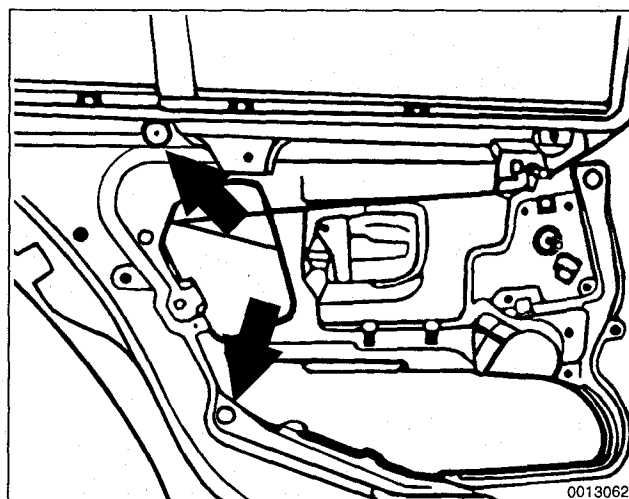

Fig. 7. Rear guide rail mounting bolts (arrows).
2. Remove upper and lower bolts at guide rail. Lift up rubber seal to access upper bolt. See Fig. 7.